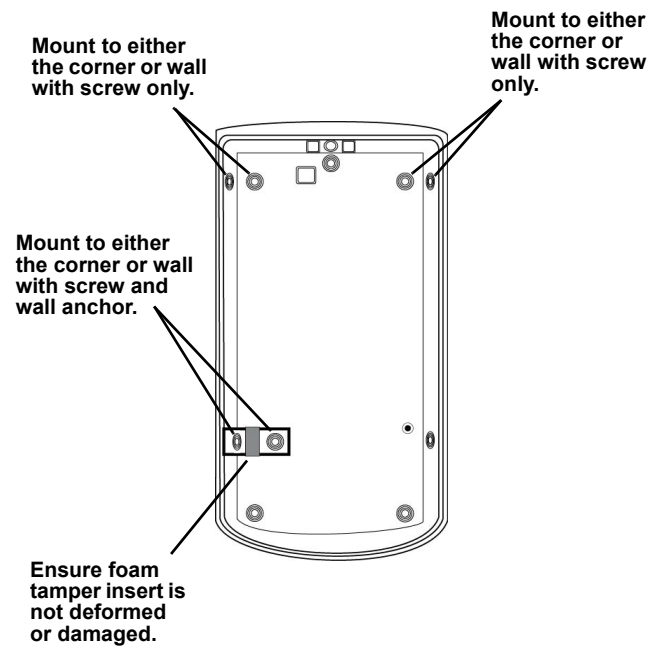

Figure 3 EE1261 mounting back plate
- If using the wall tamper function for increased security, mount the housing back plate per Figure 3, ensuring the tamper switch is depressed.